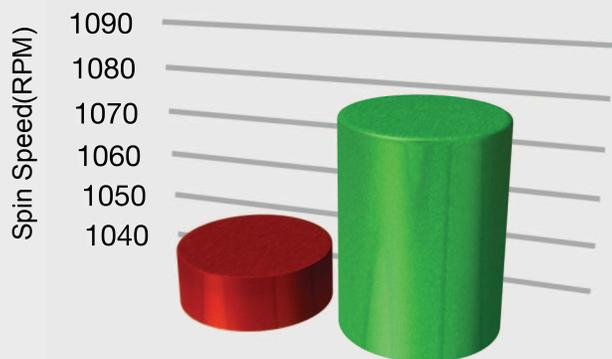

Figure 2. Impact of XYO on spin speed of washing machine
- ▶ Figure 2 demonstrates the higher spin speeds achievable using the XYO balancer.